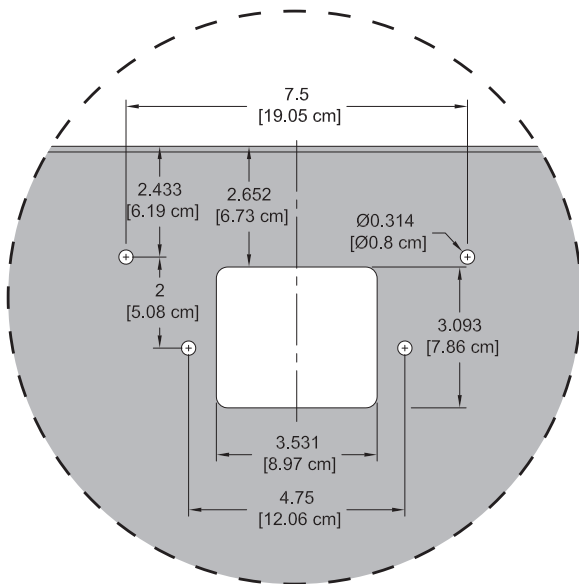
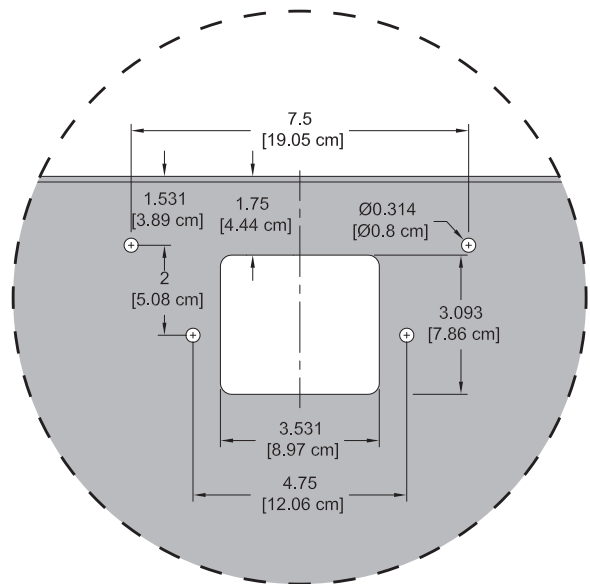

Figure 2.1
Figure 2.2
1. Be sure the worksurface being used has the cutout / hole pattern shown in **Figure 2.1**, or **Figure 2.2**.